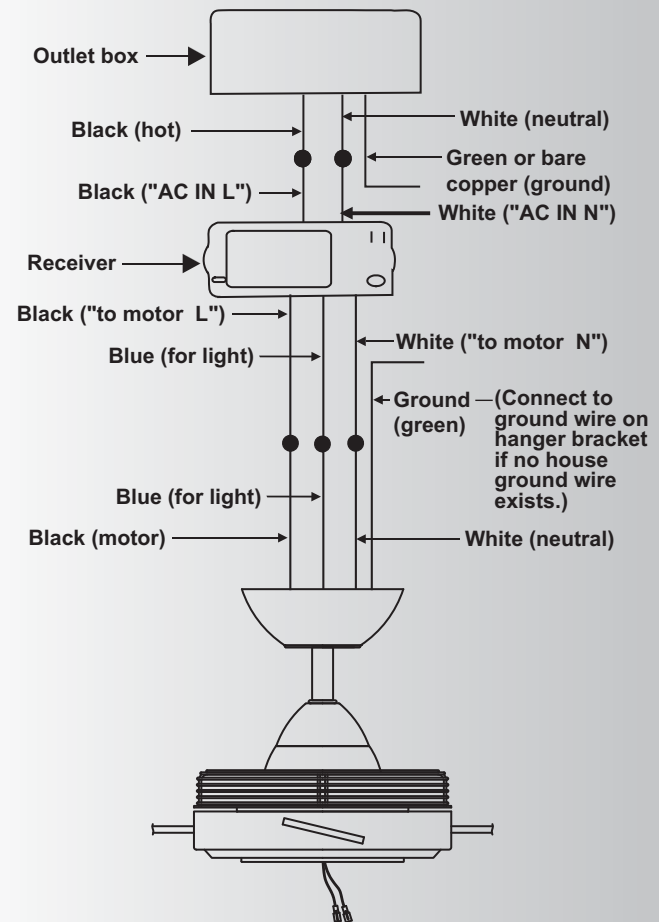

Fig. 17
Step 2. Motor to Receiver Electrical Connections: (Fig. 17) Connect the black wire from the fan to the black wire marked "TO MOTOR L" on the receiver.
Step 3. Receiver to Supply Wires Electrical Connections: (Fig. 17) Connect the black (load) wire from the ceiling outlet box to the black wire marked "AC in L" on the receiver. Connect the white (neutral) wire from the ceiling outlet box to the white wire marked "AC in N" on the receiver.